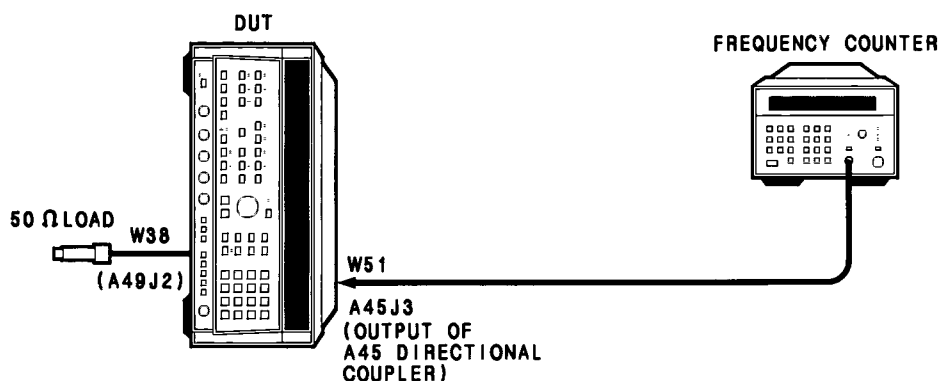
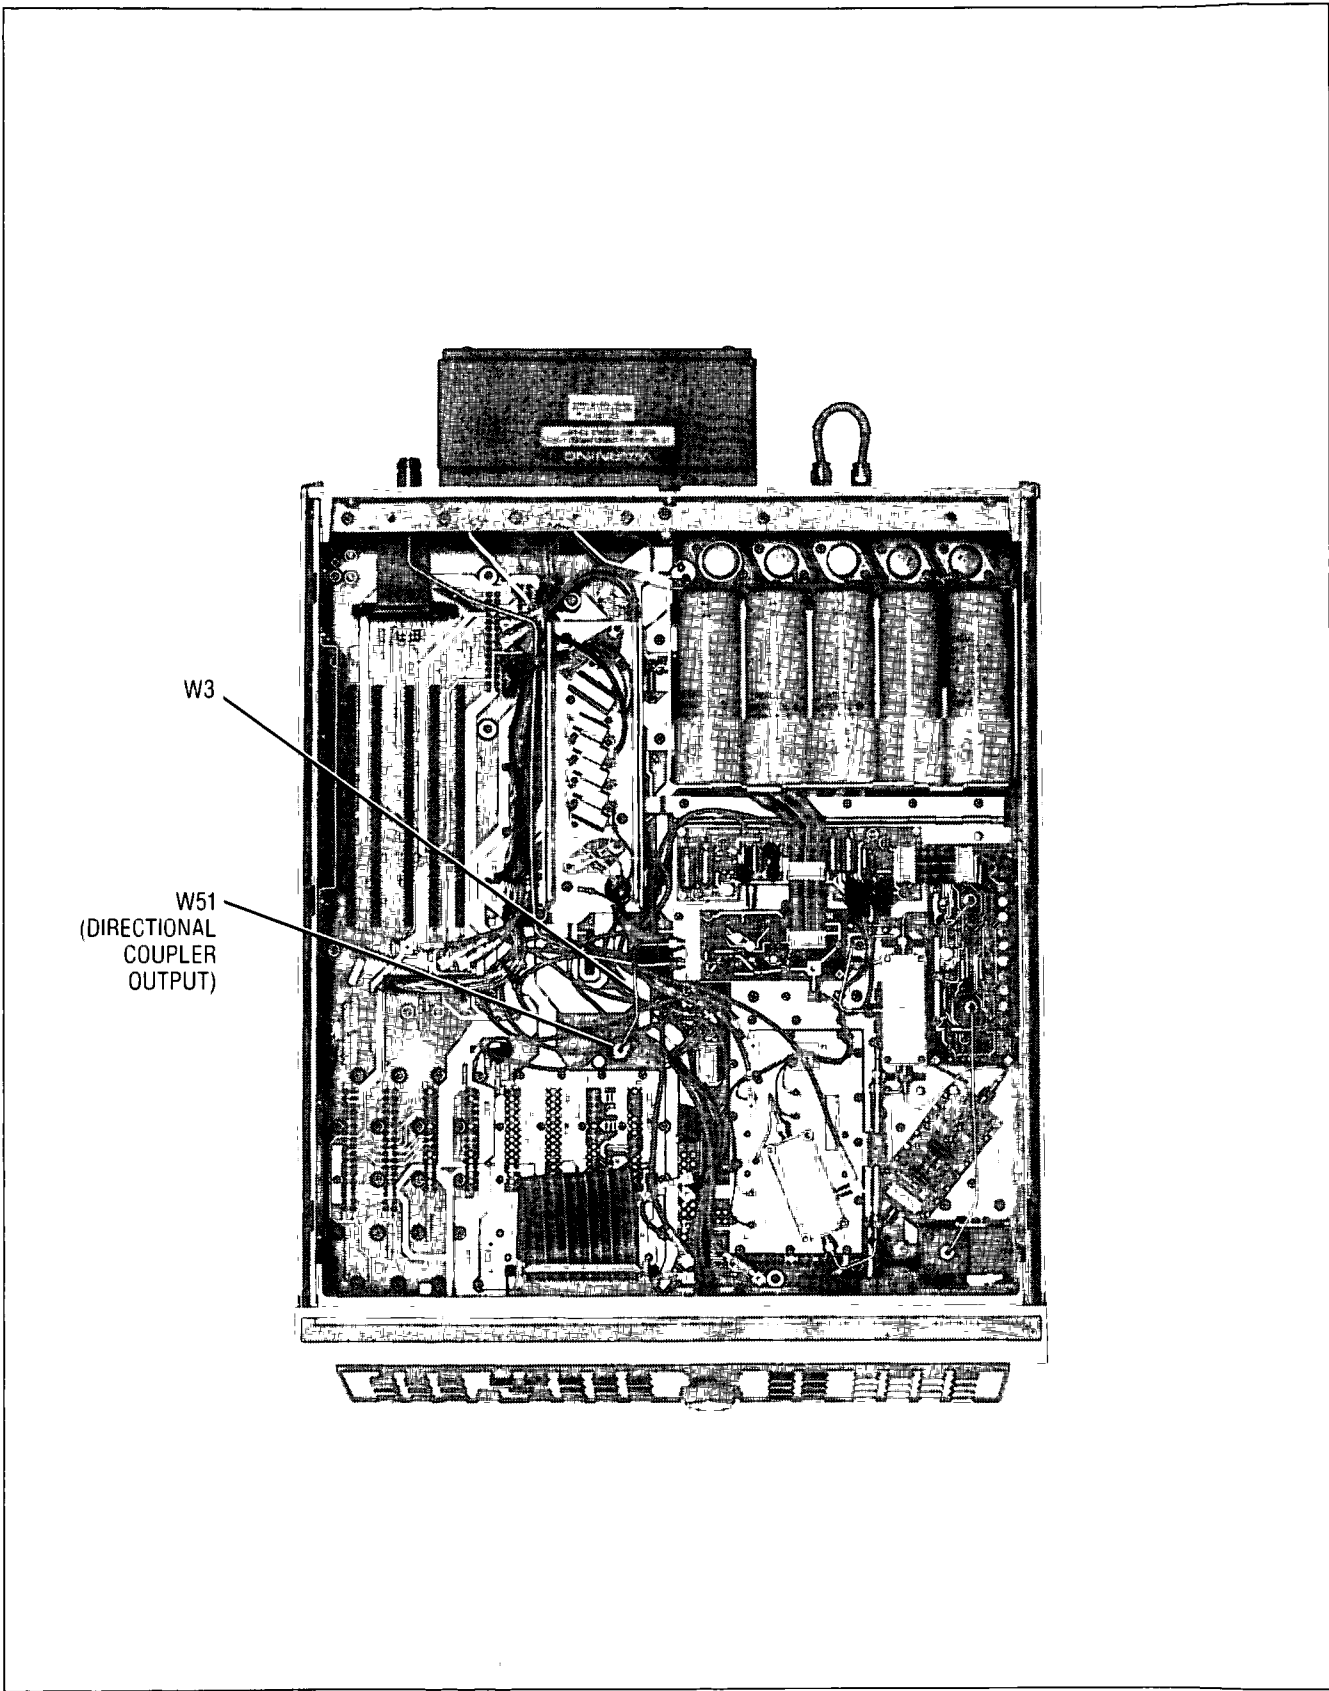

Figure 5-15. YO Main Driver A55 Test Setup
Figure 5-17. Top View, Cable Location
1. Position the DUT in the test position as shown in Figure 5-15 with top and bottom covers removed. Remove W3 (Figure 5-17) and connect the frequency counter to W51 as shown in Figure 5-15. Allow one-half hour for warm up time.
8. Disconnect the Frequency Counter and reconnect W3 to W51 (Figure 5-17). Remove 50 Ohm load from cable W38 and reconnect the cable to A49J2.